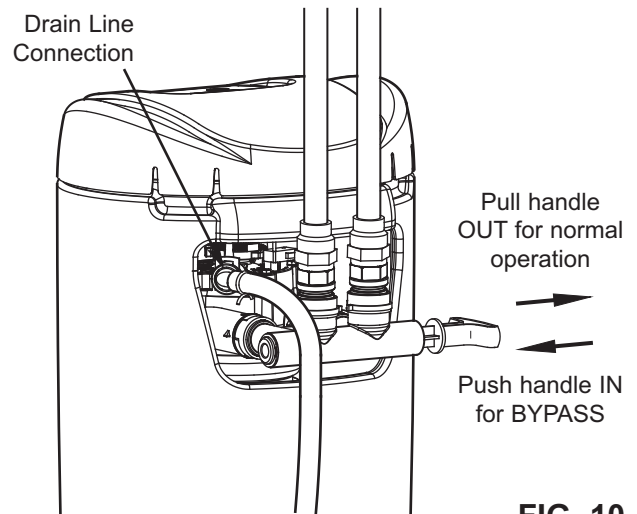

FIG. 10
1. Measure, cut to needed length and connect the 3/8" drain line (provided) to the Whole Home Water Filtration System valve drain fitting (See Figure 10). Use a hose clamp to hold the hose in place.
1. Make sure the single bypass valve (or 3 valve bypass, if installed) is in the bypass position, with the handle pushed in (See Figure 10).
4. Slowly move the bypass valve(s) to the normal operation position, pausing several times to allow the unit to pressurize slowly (See Figure 10).